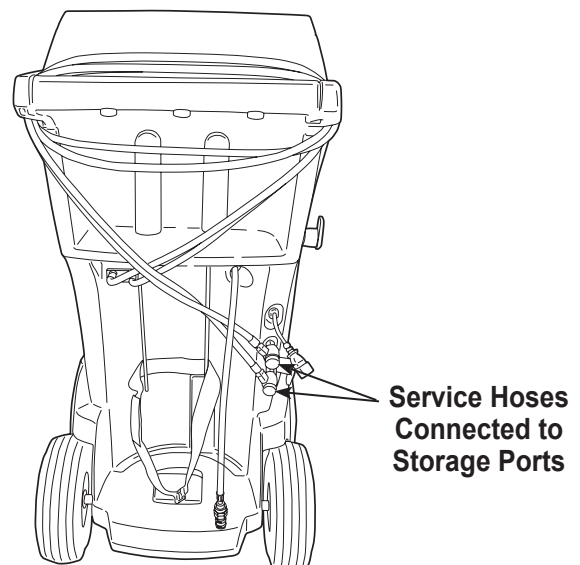

Figure 2
1. When prompted, connect the service hoses from the machine to their storage ports as shown in Figure 2.